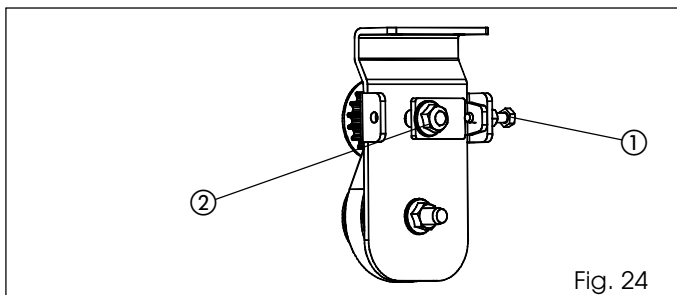

Fig. 24
- Loosen the nut (fig. 24 ref. ①).
- Screw the bolt of fig. 24 ref. ② to exert tension on the belt or unscrew it to slacken the belt.
- When you have adjusted tension, tighten the nut (fig. 24 ref. ①).